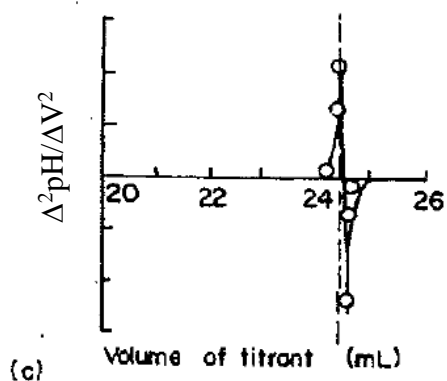

Figure 5. Second derivative curve
2. Plotting the second derivative curve by calculating change in potential-change or pH – change per volume change. Then their ratios, $\Delta^2 E/\Delta V^2$ or $\Delta^2 \text{pH}/\Delta V^2$ values, are plotted against corresponding volume of the titrant. As shown in Figure 5, the data changes sign from (+) to (-) at the inflection point. Second derivative curve gives the end point more precisely.